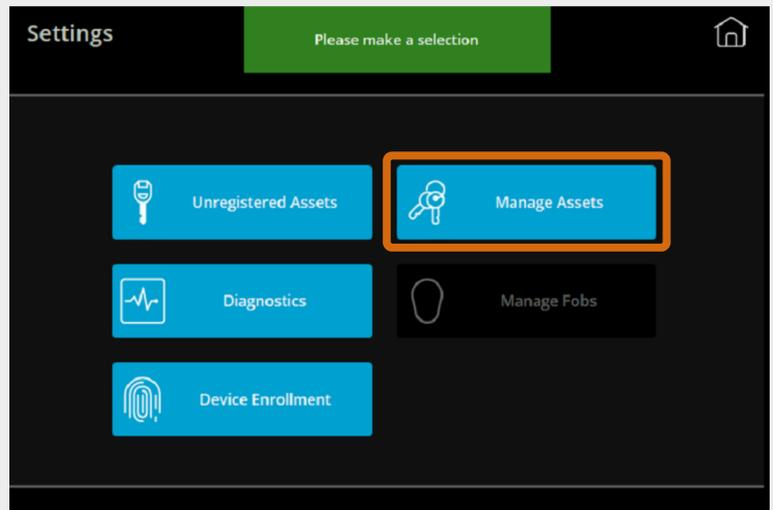

Fig. 21 – (Admin) Settings screen with Manage Assets button indicated
3. Press **Manage Assets**, as shown in Fig. 21.